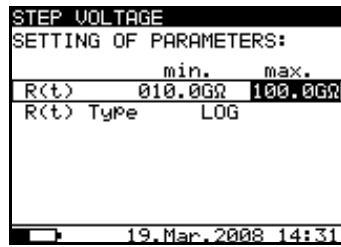

Fig. 27. Set-up menu of the Graph R(t)
- Press the **SELECT** key to Set-up the parameters of the **graph R(t)**, see the **Fig. 27**. Press the **ESC** key to return to basic Set-up menu in the **Step Voltage** function.